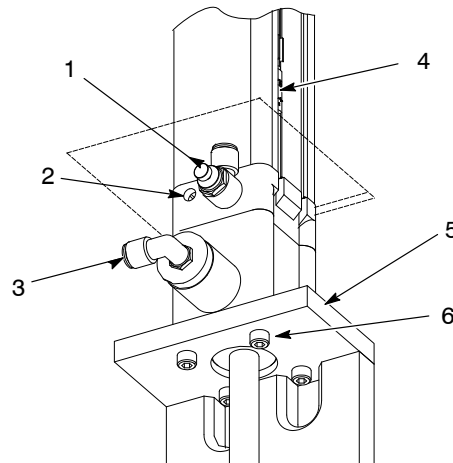

Figure 8-7 Cylinder Flow Control Valve and Cushion Stop Adjustment (Rod End)
5. See Figure 8-7. Disconnect the air tubing from the Up and Down flow control valves (1) at the top of the cylinder.
6. Disconnect the air tubing from the cylinder lock (3).
7. Remove the proximity switches (4) and brackets from the cylinder slots.
8. Have one person hold the cylinder while another removes the four socket-head screws (6) from the bottom of the cylinder mounting plate (5).
10. See Figure 8-7. Raise and lower the lance assembly and adjust the flow control valves for 6 seconds full travel in each direction.